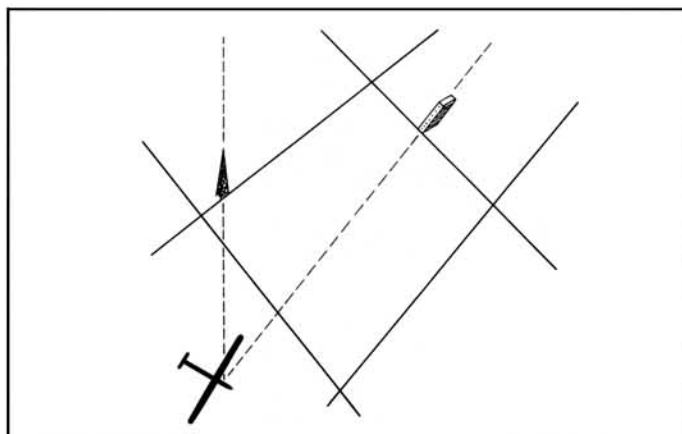

FIG. 2
2. *Vertical Features.* A geometrically fundamental characteristic of any vertical feature in a turn point photo is that it always points (from its top to its base) to the ground position over which the photograph is taken. Thus, straight lines through the photographs of the towers in the below figure 2 always intersect at the ground position of the glider. So, if there are two separate and distinctive vertical features in a TP photo the problem of determining the glider's position is simple - provided that the two lines are not parallel or very close to parallel. It is not easy to find turning points with a convenient pair of vertical features, but even one such feature can at least provide a line on the glider position.